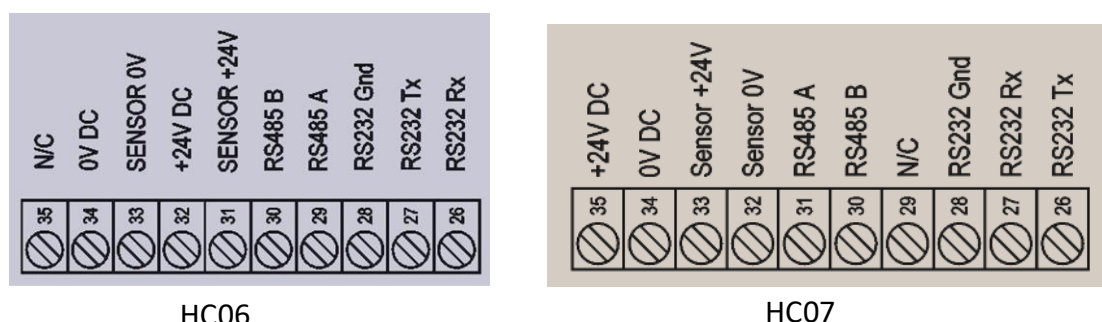

Figure 9: HC06 vs HC07 – 10-pin connector pinout differences
The Hydro-Control (HC07) is designed to utilise the same physical 10-pin connector for the power supply and sensor connection as used in HC06 installations. However, **the wiring connections within the 10-pin connector differ between HC06 and HC07 devices**, see Figure 9.
Figure 9 depicts the difference in wiring configuration between the HC06 installation wiring and the connections required by HC07.
- Re-wiring the HC06 connector to match the HC07 pinout (see Figure 9)
When the HC06-to-HC07 adaptor loom (part No.7060) is not available, the wiring configuration of the 10-pin terminal block can be changed to match the pinout of the HC07 terminal block wiring, refer to Figure 9.